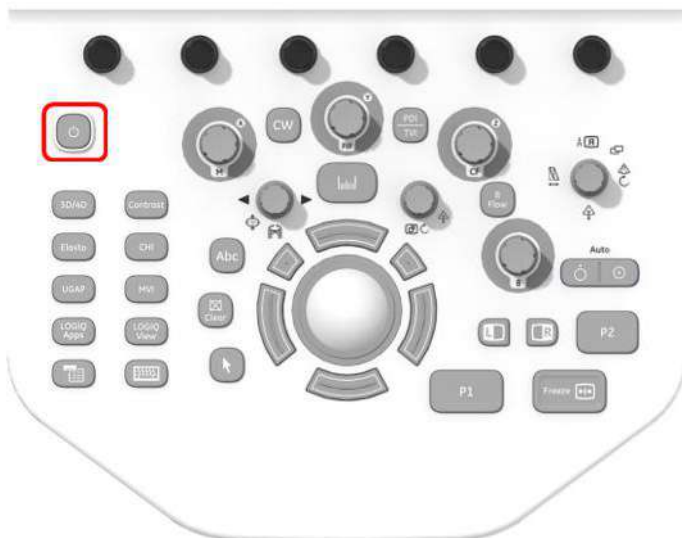

Figure 3-9. Power On/Off Switch Location
3. Momentarily press the On/Off switch. The switch turns on a light. (refer to Figure 3-9 on page 3-22).